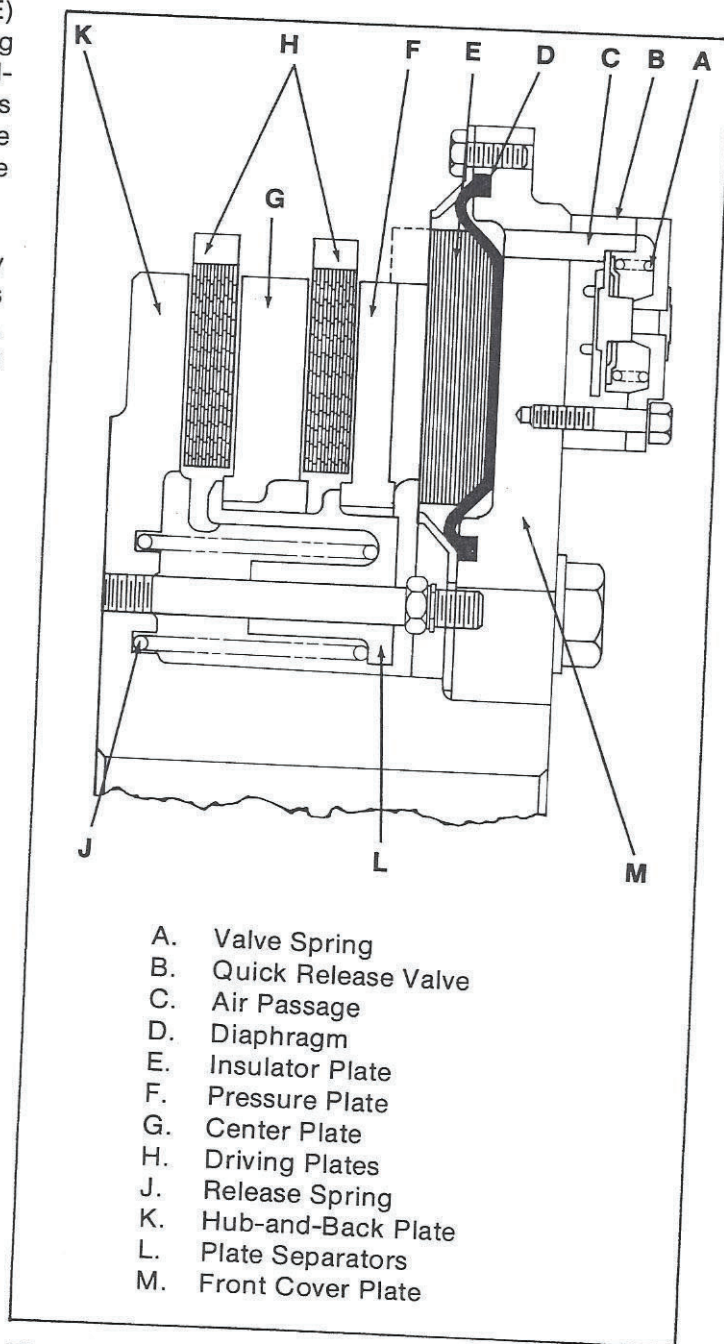

Figure 3-1. Clutch Operation.
When the control valve is in the "ON" position, air is routed from the shaft through lines supplied by the user to the quick release valve (Figure 3-1, B). The first small volume of air admitted closes the quick release valve allowing air pressure to build-up behind the diaphragm (D). The pressure moves insulator plate (E) and pressure plate (F) to the left, clamping driving plates (H) against center plate (G) and the hub-and-back plate (K). Pressure plate movement compresses release springs (J) and the clutch is engaged. With the proper air pressure (130 psi maximum) and volume, the clutch will engage in less than one second.